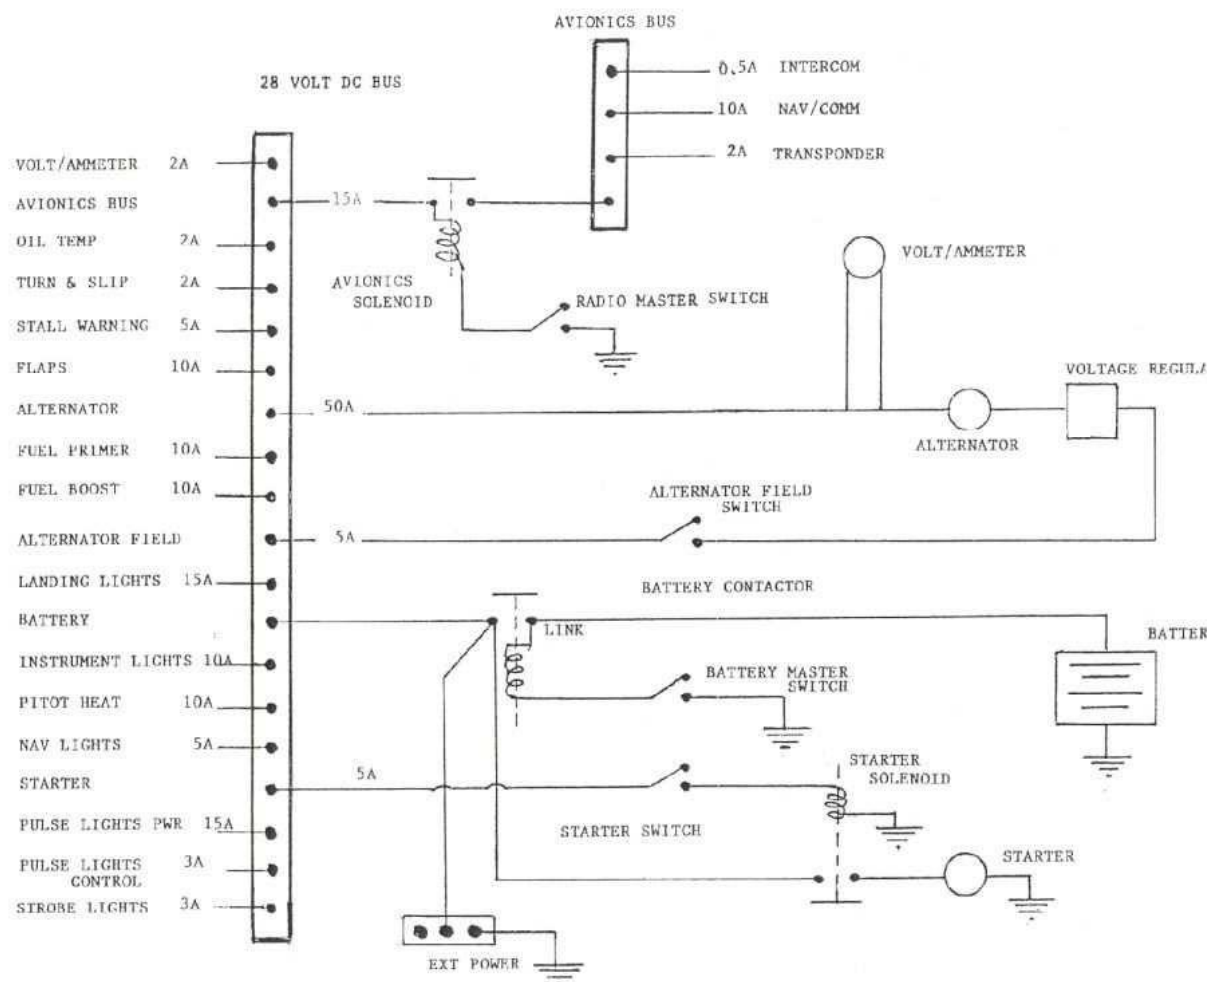

Figure 1-9 Electrical System Schematic
64. The cabin heat is controlled by operating a flexible push-pull type cabin heat knob (Figure 1-9) located on a bracket just beneath the instrument panel on the left side of the cabin. The knob is labelled CABIN HEAT PULL. If the knob is pulled to its full aft position, heat is emitted to both cabin compartments. Pushing the knob in all the way stops the flow of heated air.
65. The windscreen defrosting and front compartment heat is controlled by operating a flexible push-pull type control (Figure 1-9) located on a bracket just beneath the instrument panel on the right side of the cabin. The knob is labelled DEFROSTER AND PILOT HEAT PULL. When the knob is pulled out, heat is ducted to the defroster and front compartment. Pushing the knob in all the way stops the flow of heated air.
- c. **Oil Temperature** – The electrical, resistance type, oil temperature gauge (Figure 1-9) is calibrated in 10-degree increments from -70 to +150 degrees Celsius. The gauge receives its power from the bus bar; and
- d. **Oil Pressure** – An oil pressure gauge (Figure 1-9) is pressure activated and is calibrated in 10 PSI increments from 0 to 150 PSI.